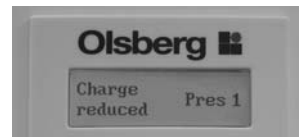

Fig.25
- You can select the menu item “Preselection, charge reduced programme” by pressing + (Fig.25), and you can then use the + or – button to select a programme (see Table 3, “Programmes, charge reduce preselection”). You can adapt these to individual user requirements using the menu item “OK = Change”, described above.